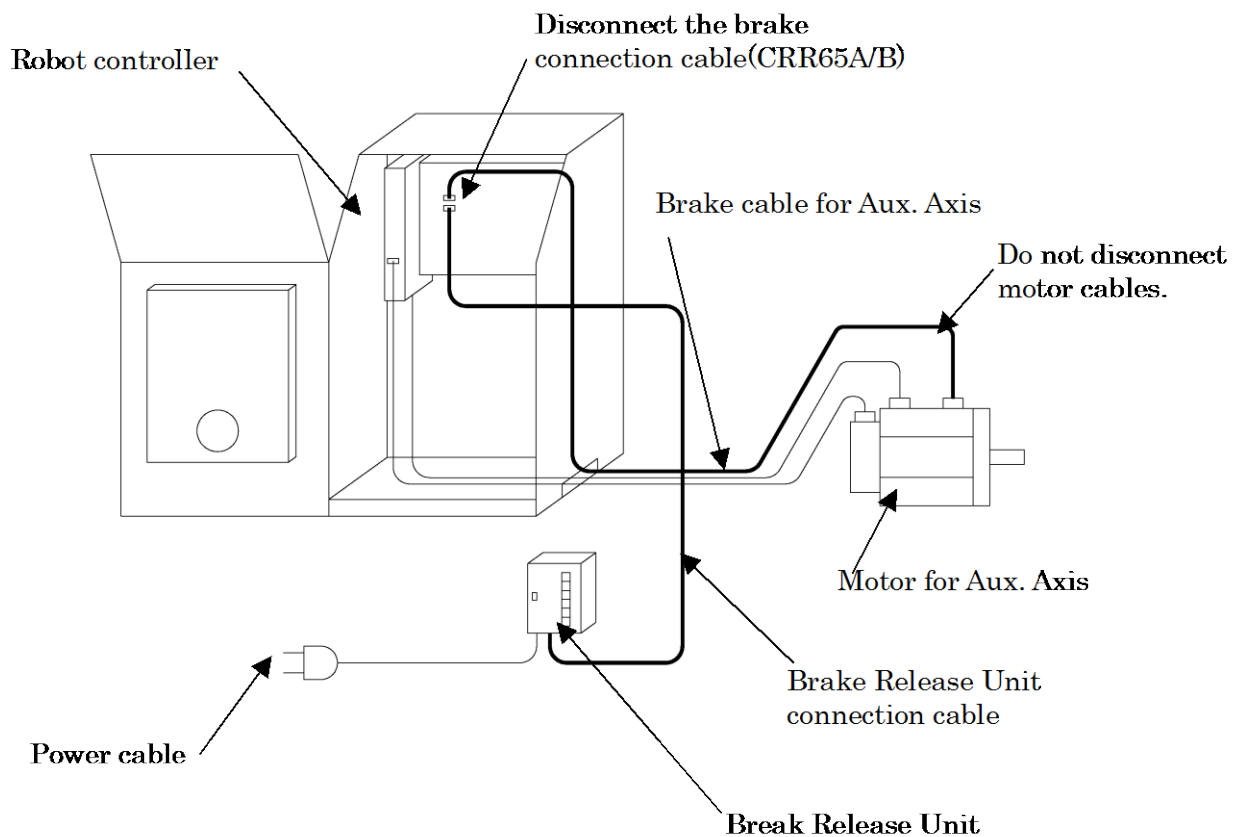

Fig.E.3.2 (a) How to connect Brake Release Unit (In case of operating to the Aux. Axis)
- Refer to Fig.E.3.2(a) for the auxiliary axis.